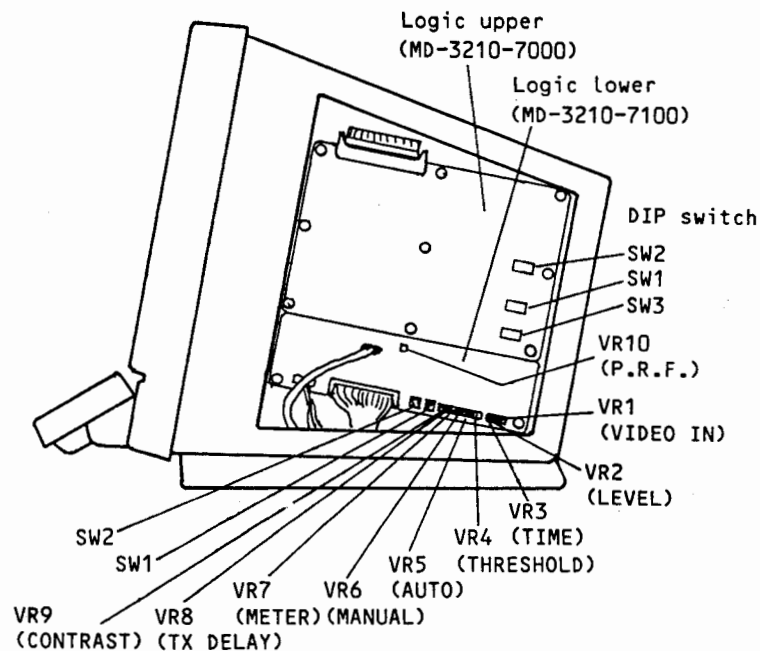

Fig. 3.1 Location of Controls and Switches
Adjusting controls and switches are located on logic upper (MD-3210-7000) and logic lower (MD-3210-7100) boards mounted right hand inside the display unit as shown in Fig. 3.1. By removing fourteen (14) fixing screws, the display cover can be removed to access these controls and switches.
As shown in Fig. 3.1, three DIP switches, SW1 through SW3 are mounted on the logic upper board (MD-3210-7000) in order to preset the operation of equipment. Functions set by those switches and their standard settings are listed in para. 1.5.2.
Adjusting controls and switches of logic lower board (MD-3210-7100) are illustrated in Fig. 3.1. Most of the adjustments should be carried out just after installation, which are explained in para. 3.2.